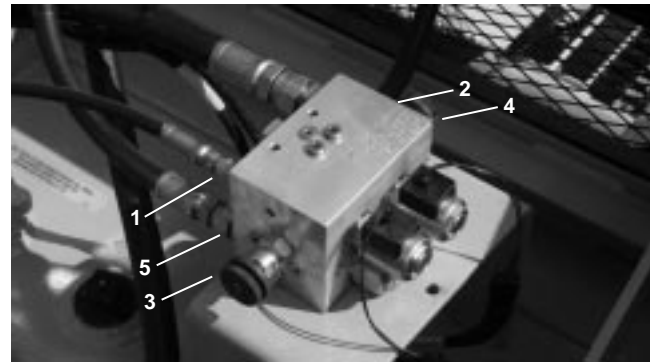

Figure 42 Conveyor Manifold
1) Install a 1000 psi gage, with a shutoff valve in the port marked “TP” on the conveyor manifold located on top of the hydraulic reservoir (Fig 42 Ref 2). This port is SAE 04 and requires a 9/16 wrench to remove the plug.
4) Install a 5000 psi gage in the port marked “TP” on the conveyor manifold located on top of the hydraulic reservoir (Fig 42, Ref 2). Remove the pressure hose plumbed to the left conveyor at the manifold and cap the adapter in the port marked “A2” with a 1/2” (08) JIC hydraulic cap.